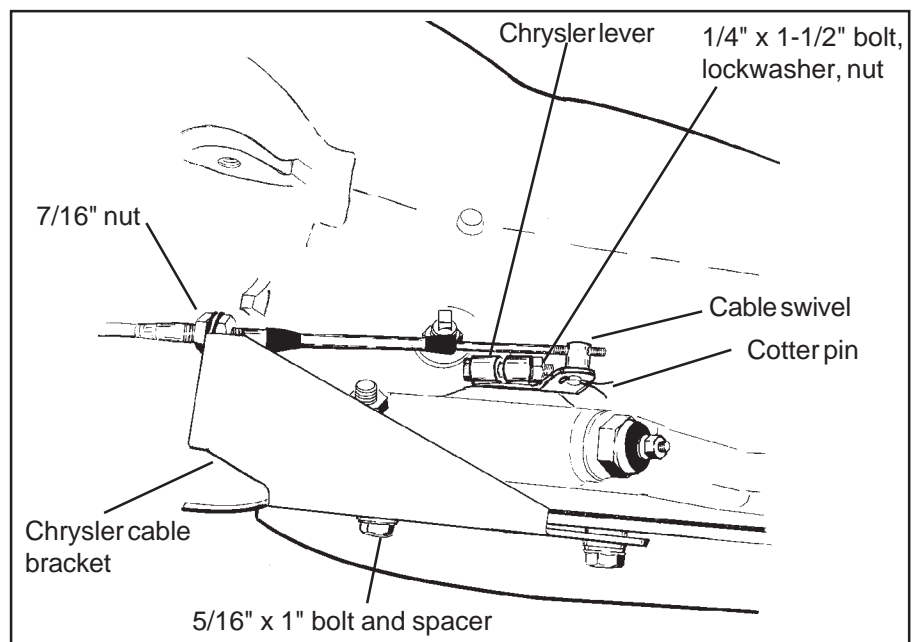

Figure 6
**STEP 19.** If you have not already done so, loosen the pinch bolt on the throttle lever on the transmission. This is the lever on the small diameter shaft. Pry the lever off with a screwdriver and allow the linkage to hang free. Remove and discard the stock shift lever and the stock shift linkage. Install the **B&M** selector lever in position and tighten the pinch bolt securely (See Figure 6). Make sure the lever is not pushed down so far as to touch the transmission case. This will cause the lever to bind on the case. The lever should travel smoothly from front to back with a positive click in each gear position. Install the stock throttle lever in position on the small diameter shaft as removed and tighten the pinch bolt securely. The throttle lever must operate smoothly.
**STEP 20.** Remove the two transmission oil pan bolts directly below the shift lever. Install the cable bracket in position (See Figure 6) with two spac-